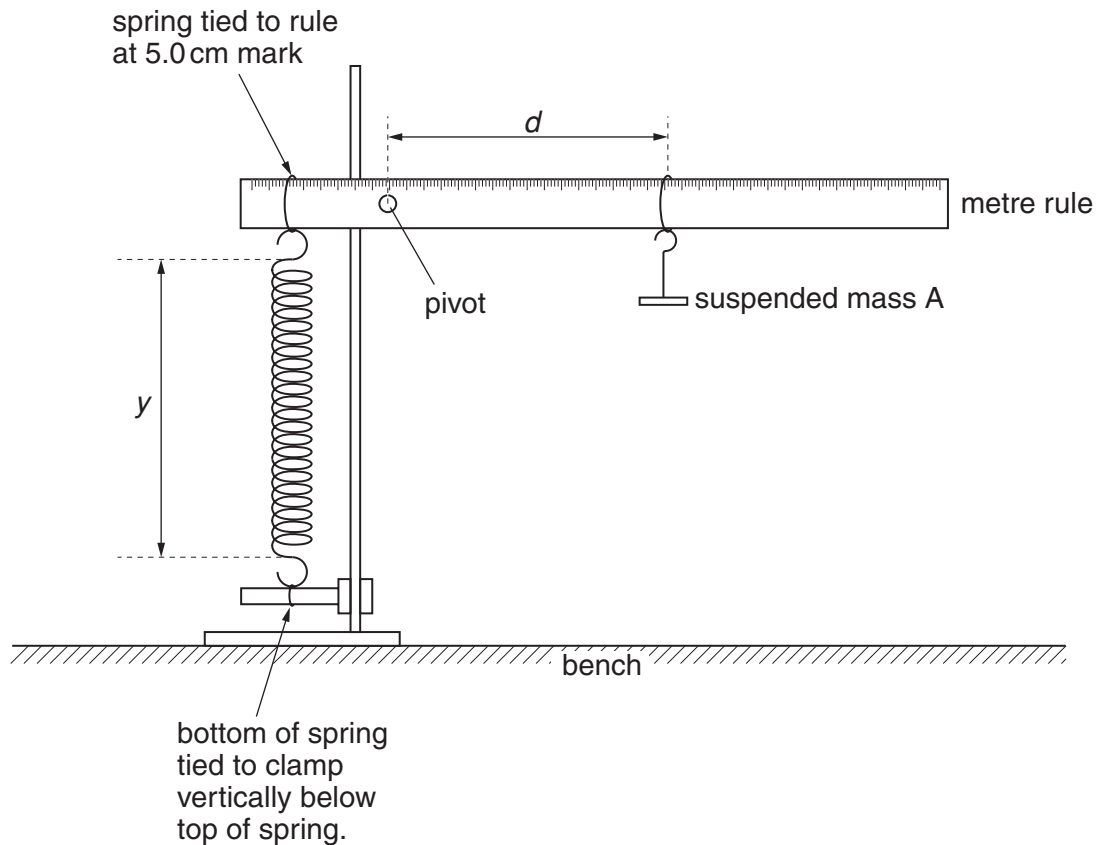

Fig. 4.1
Boss and clamp to hold the lower end of one of the springs as shown in Fig. 4.1.
- (iv) The apparatus should be set up by the Supervisor as shown in Fig. 4.1. The nail should pass through the hole at the 15.0 cm mark and should be held in the boss on the stand. The boss should be about 40 cm above the bench. The rule should be approximately horizontal and mass A should be suspended from the 60 cm mark on the rule.